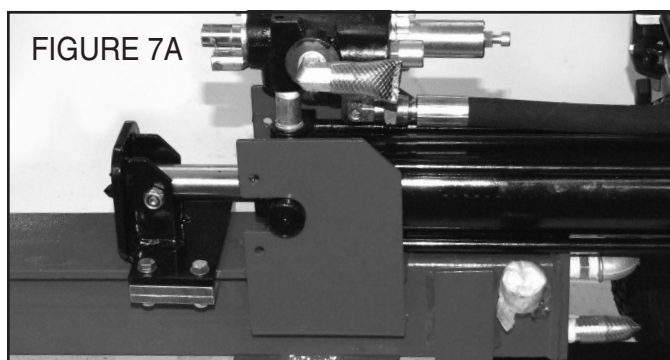

FIGURE 7A
7. **(U.S. Version)** Slide ram assy. to rear bracket and attach with (4) 20mm bolts, locknuts and (2) retainer plates. SEE FIGURES 7A & 7B.